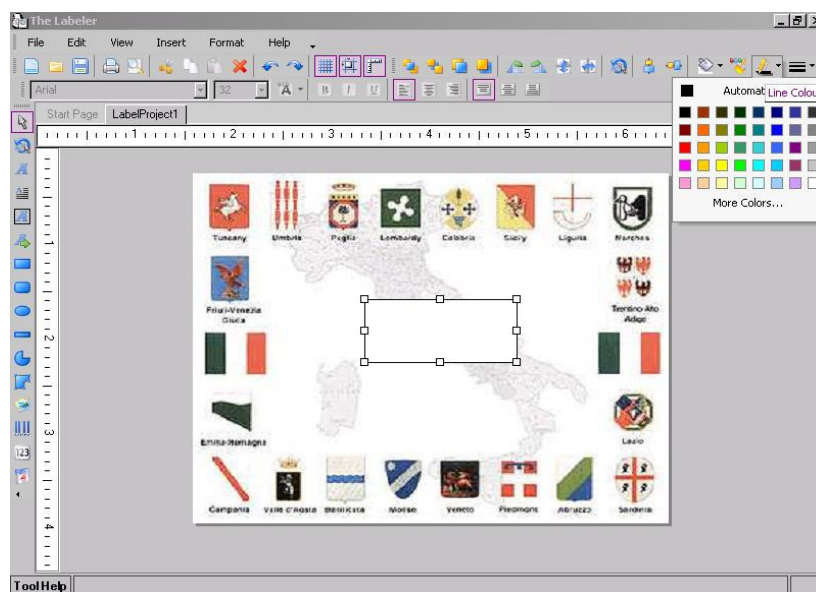

Figure 4.2.4.3: Line Colour panel
3. Select the colour you want the lines to be (see Figure 4.2.4.4).